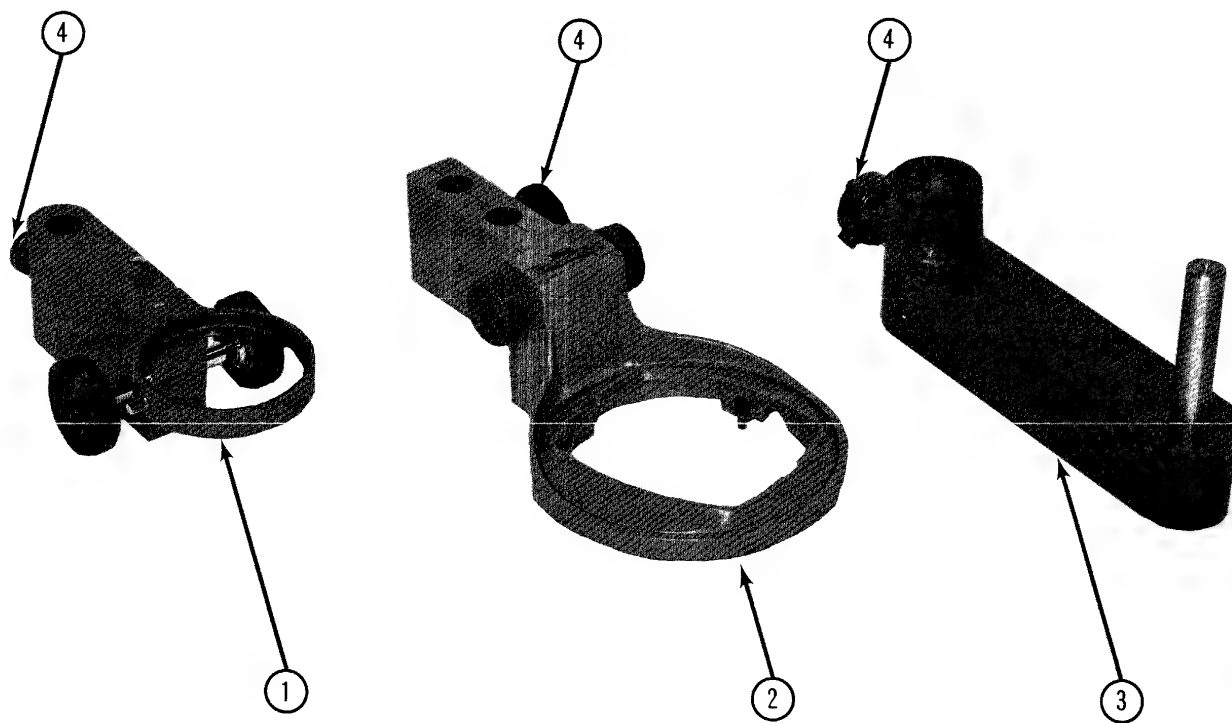

FIG. 4 MICROSCOPE ADAPTERS
- STATINTL 1.  stereomicroscope used with adapter #1 Figure 4.
- STATINTL 2.  used with adapter #2 Figure 4.
- STATINTL 3.  stereoscopic microscope used with adapter #3 Figure 4.
All microscope adapters are mounted to the carriage assembly by slipping the adapters over the post on the Microscope Carriage Assembly and securing the adapter to the Carriage Assembly by tightening hand screw #4 Figure 4.